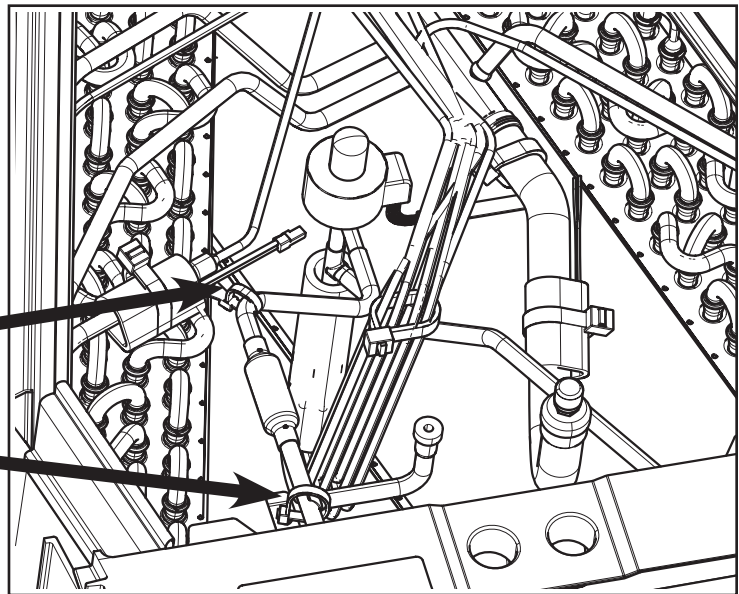

Figure 5 – Remove wire ties – EEV-1
5. Use wire cutters to remove two wire ties attaching the EEV-1 flow control assembly to the coil as shown in Figure 5. Discard the tie cables. Save the screw removed in this step that held the screw-in tie cable for later use.